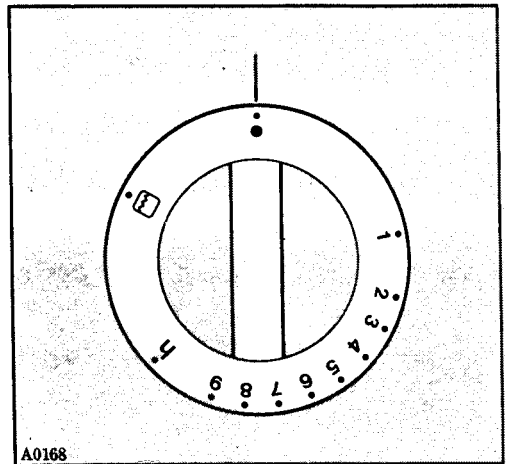

fig. 2
2. Firmly depress the oven control knob (Fig. 2) and turn it anticlockwise to the maximum setting and at the same time operate on the relevant pushbutton